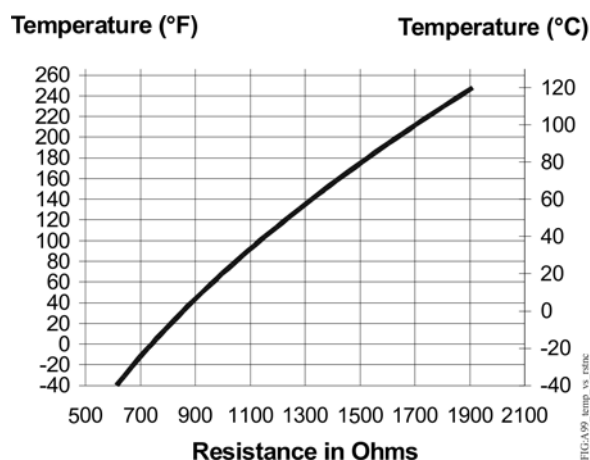

Figure 12: Temperature versus Sensor Resistance
- e. Consult Figure 12 to verify that the measured temperature and resistance conform to established temperature and resistance values.
- f. If the measured values conform to the values in Figure 12, proceed to Step 3.